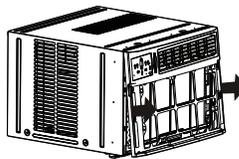

Fig. 3
4. Push metal cabinet side and pull on plastic frame to release plastic tabs on each side of front panel. (See Fig. 3.)